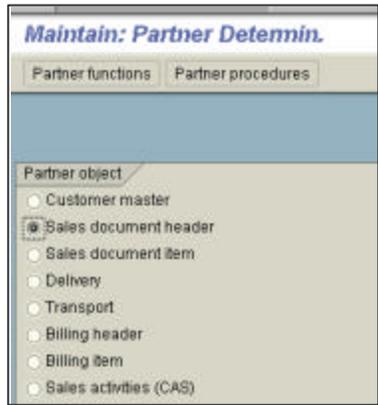

Figure 72: Selecting the sales document header
2. From the Partner functions initial screen, select **Sales document header** and click **Partner Functions** as shown in Figure 72.